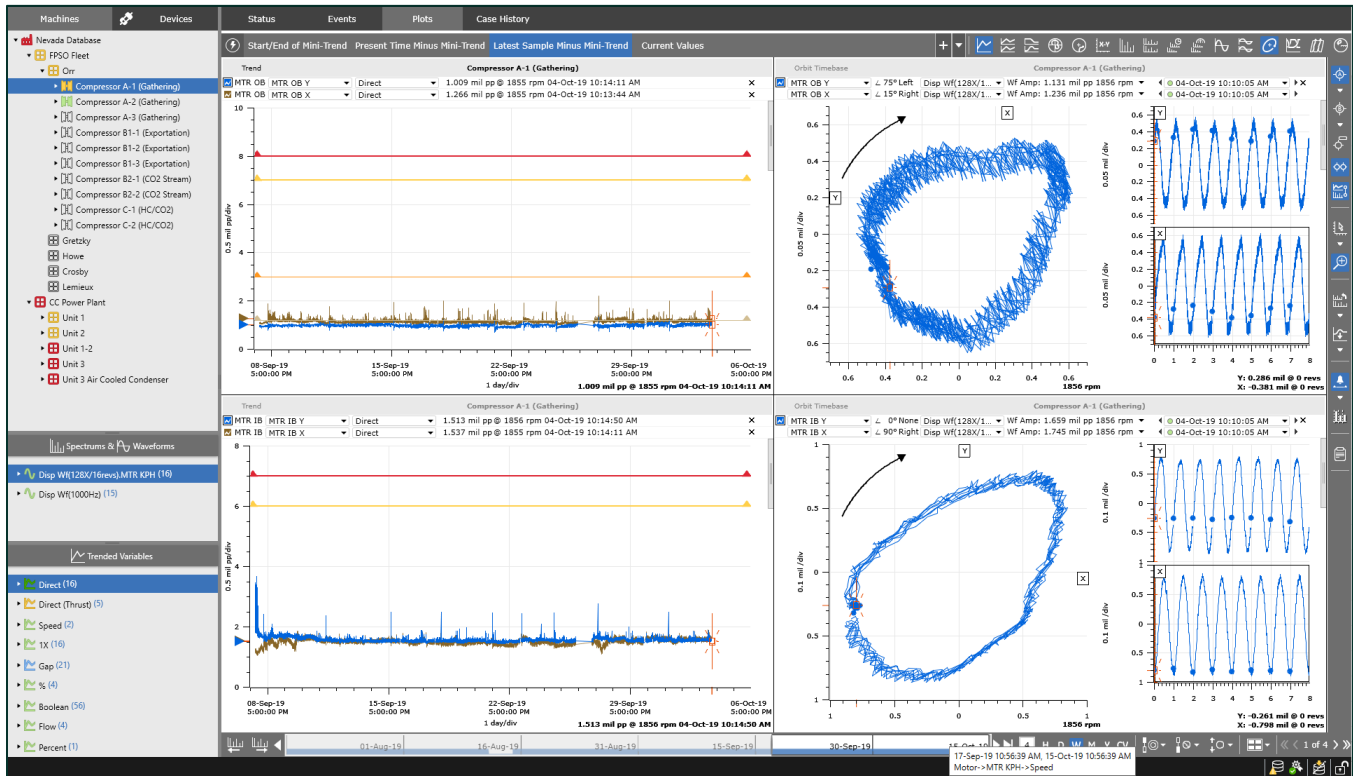

Figure 56: "Latest Sample Minus Mini-Trend Range"
- "Latest Sample Minus Mini-Trend Range", the Defined Plot Set is loaded with a time range of 4 weeks with the span ending at the last stored sample. In the example figure, the data is from 3500, so the last stored sample was also on 15-Oct-2019 (Figure 56).